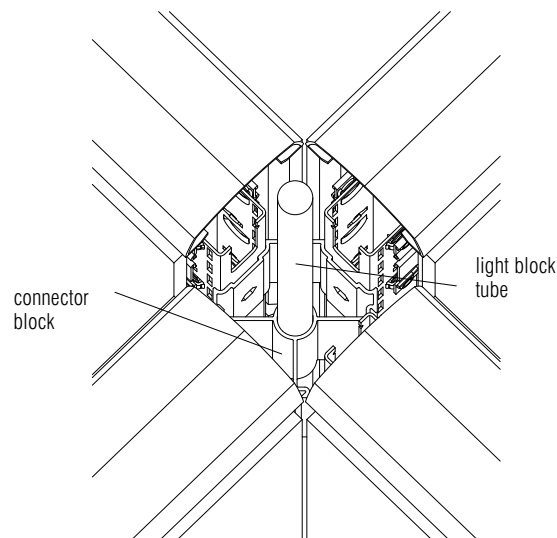

Figure 2
1. Slide the light block tube through the holes in the center of connector block. **Figure 2.**